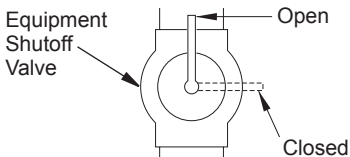

Figure 17 - Equipment Shutoff Valve
1. Close equipment shutoff valve (see Figure 17).
1. Open equipment shutoff valve (see Figure 17).
3. Close equipment shutoff valve (see Figure 17, page 15).